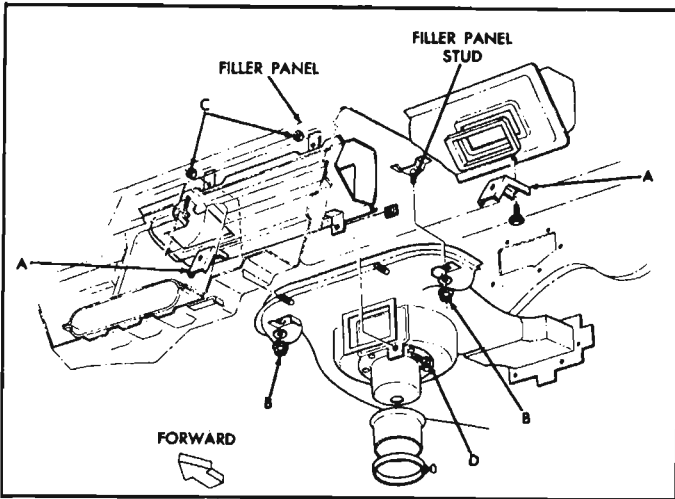
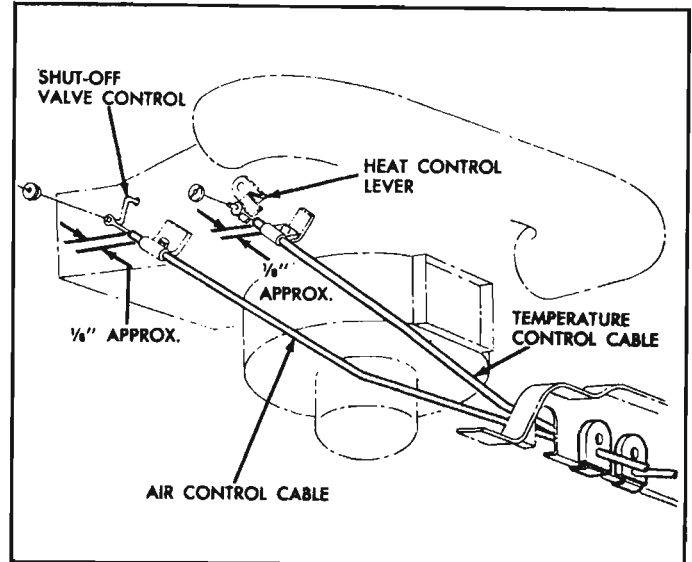

Fig. 11-37—Housing, Cross Air Duct and Blower Removal
Fig. 11-39—Control Cable Attachment
6. Remove nuts (B, fig. 11-37) from studs on package shelf, one on either side of the blower motor.
4. Disconnect the blower wire and control cables from heater housing (see fig. 11-39).
5. Remove two angle brackets (A, fig. 11-37) from the cross air duct and underbody.
2. Loosely assemble nuts (B, fig. 11-37) on the studs on the package shelf to support the heater assembly.
3. Reinstall angle brackets (A, fig. 11-37) to the underbody and the cross air duct.
4. Tighten nuts (A) which were installed in step one.
6. Install control cables and check their operation. With the cables properly adjusted, see Figure 11-39, a "cushion" will be felt at the end of the travel
1. With the heater housing removed from the vehicle, remove the two stud nuts (C, fig. 11-37) and single screw (D, fig. 11-37) attaching the cross air duct to the air inlet assembly.
The control cables adjustment procedures are the same as used on other Chevrolet Heaters as well as Air Conditioning Systems and air vent controls, and it is felt that servicemen are sufficiently versed in the adjustment that it will not be covered here. Figure 11-39 illustrates cable adjustments dimensions.
7. Replace the control cables as shown in Figure 11-39 and plug in the blower wiring connector.